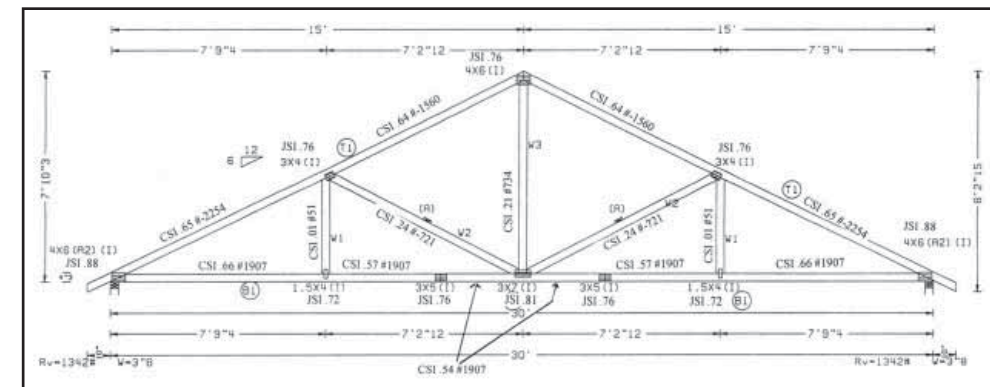

Figure 2. Design drawing for trusses to be tested.
Step 1: Use ten trusses (see figure 2) and test all of them to get precise load-deflection and lateral deformation load data.
Step 4: In Step 1 above we'll load each single truss shown in figure 2 in a series of load increments and measure the lateral forces in each web member under a series of prescribed web member lateral deformations.